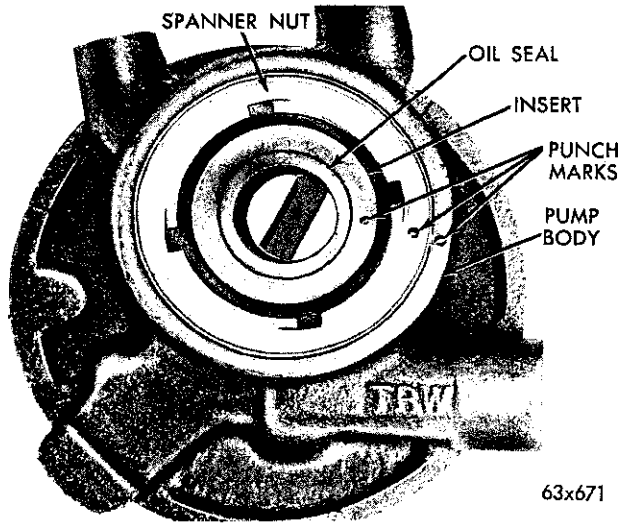

Fig. 11—Center Punch Marks on Pump Body Spanner Nut and Front Insert
(4) Use a center punch to mark the position of the spanner nut and front insert in the pump housing (Fig. 11,) to insure that the front insert and spanner nut are returned to the exact same position at reassembly.